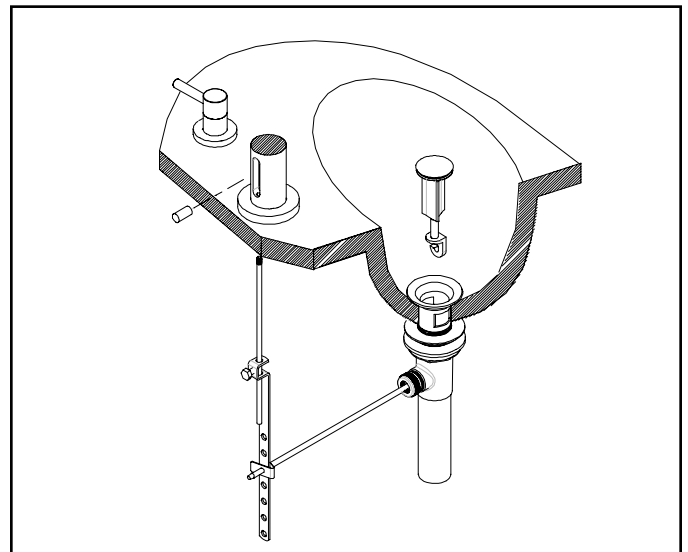

Figure 5
7. Place drain plug into flange. Remove pop-up knob from rod and insert pop-up rod through spout. Reattach pop-up knob to rod. Secure rod to strap, approximately 1" from end of rod, with screw. Insert ball rod into the drain's rod opening, secure with ball rod nut. Adjust the rise of the plunger and clip into place. Adjust ball rod and pop-up rod so drain will open and close properly. See Fig. 5